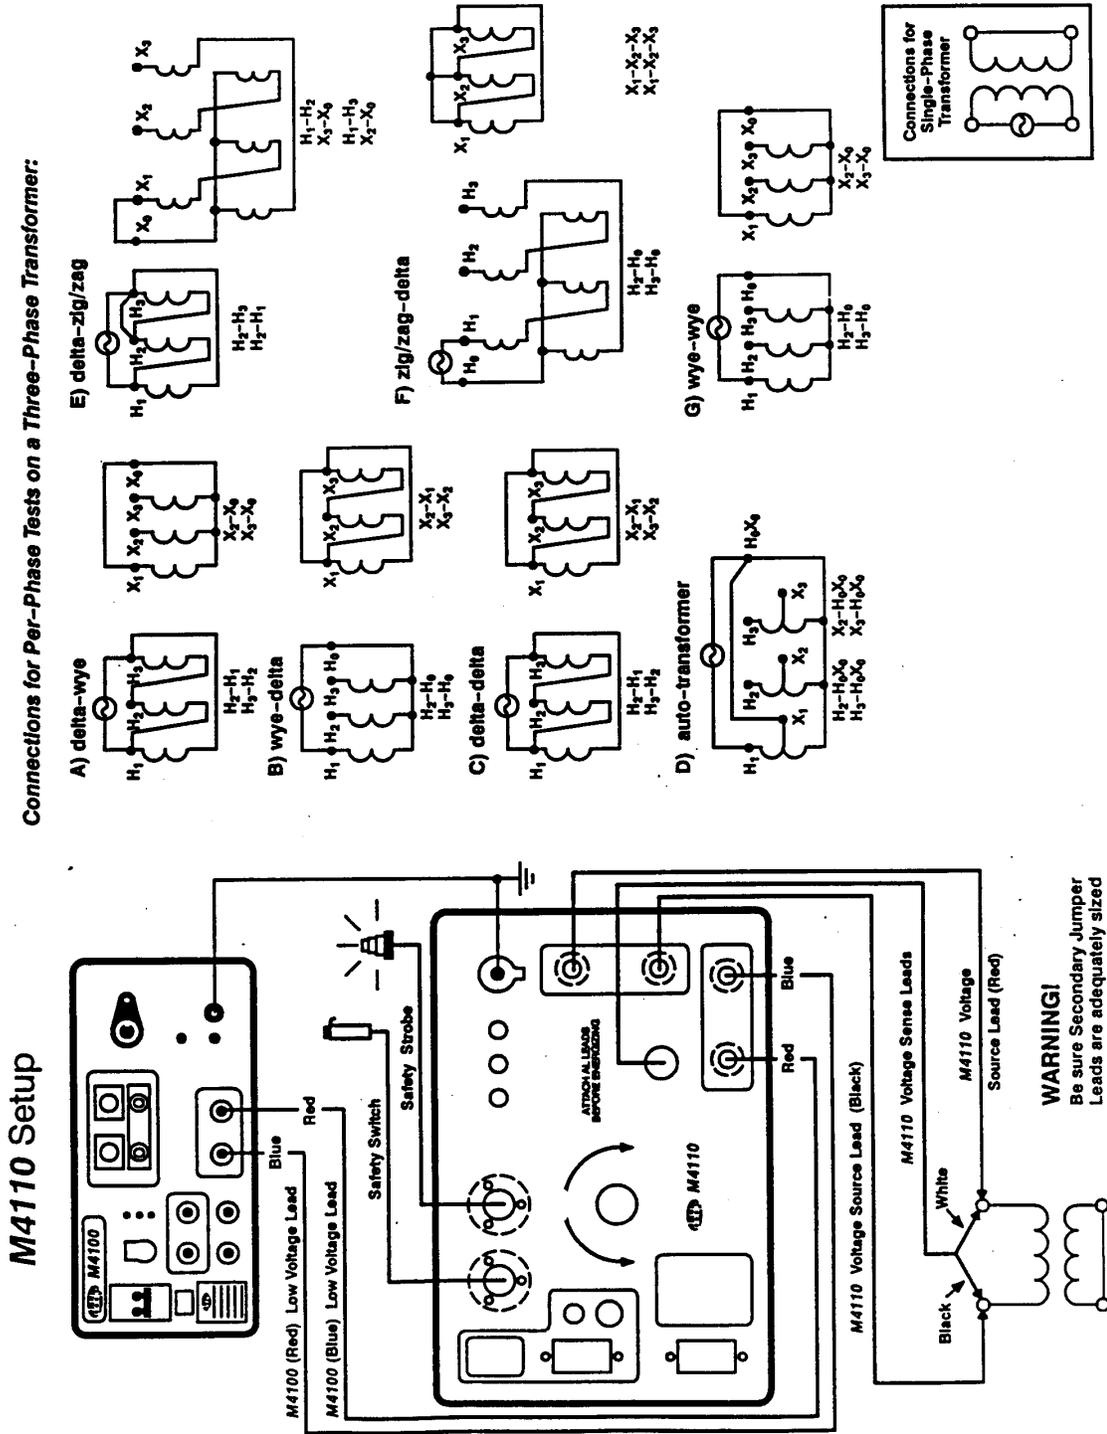
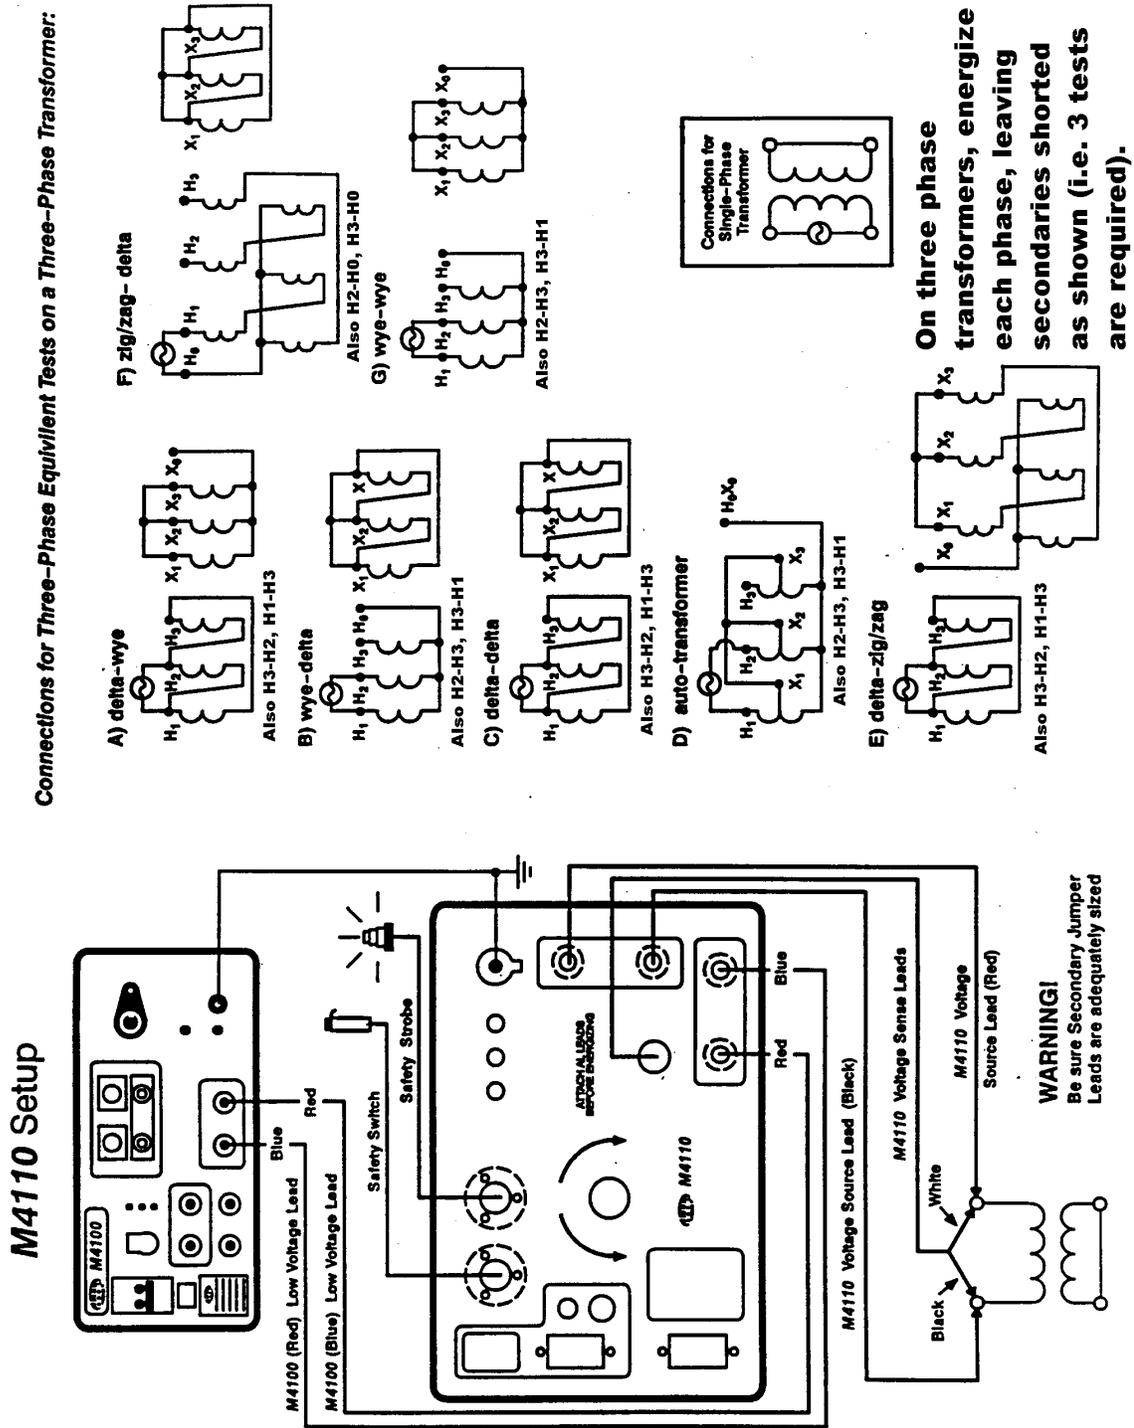
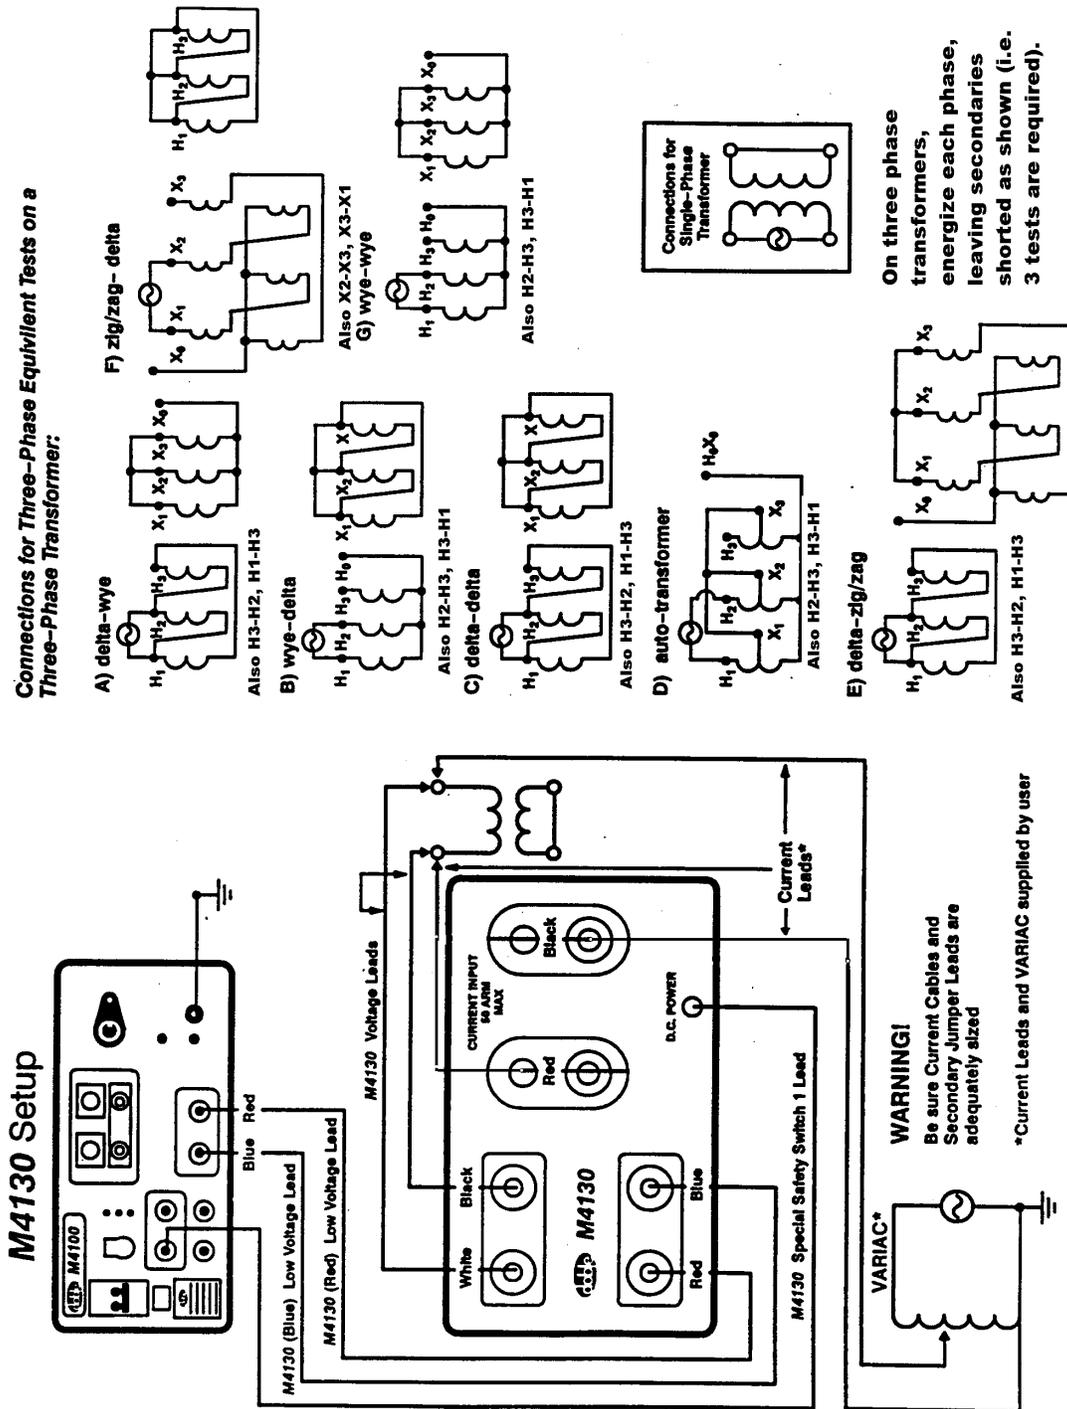

Figure 3.3 M4110 Setup (a)
Figure 3.4 M4110 Setup (b)
Figure 3.6 M4130 Setup (b)
On a new or rebuilt three-phase transformer or during the initial test on a used transformer, a three-phase equivalent test and per-phase tests should be performed. This allows comparison with the nameplate value (the three phase equivalent test), between the phases (per-phase tests) and provides a benchmark for future tests (per-phase tests). On a single-phase unit, only one test can be performed (Figure 3.3 M4110 Setup (a)). For comparison, tests should be performed on the same LTC positions as the nameplate values.
Test connections for use with the M4110 are shown in Figure 3.3 M4110 Setup (a) and Figure 3.4 M4110 Setup (b). Test connections for use with the M4130 are shown in Figure 3.5 M4130 Setup (a) and Figure 3.6 M4130 Setup (b).
One test is performed on each phase, by connecting the voltage source and sense leads from the Leakage Reactance Interface to each pair of line terminals. All three line terminals on the opposite winding are connected together with jumpers, as shown on Figure 3.4 M4110 Setup (b) (if using the M4110), and Figure 3.6 M4130 Setup (b) (if using the M4130).
One test is performed on each phase, by connecting the voltage (source and sense) leads from the Leakage Reactance Interface to a line and the neutral terminals on wye and zig/zag windings or to a pair of line terminals on a delta winding. The terminals on the opposite winding should be short-circuited, as shown in Figure 3.3 M4110 Setup (a) (if using the M4110), and Figure 3.5 M4130 Setup (a) (if using the M4130).
The test connections for a single-phase unit are shown in Figure 3.3 M4110 Setup (a) or Figure 3.4 M4110 Setup (b) (if using the M4110), and Figure 3.5 M4130 Setup (a) or Figure 3.6 M4130 Setup (b) (if using the M4130).
Use Figure 3.3 M4110 Setup (a), Figure 3.4 M4110 Setup (b), Figure 3.5 M4130 Setup (a), and Figure 3.6 M4130 Setup (b) to select the connection that applies to your transformer winding configuration.
5. Jumper together the two terminals of the opposite winding (see Figure 3.3 M4110 Setup (a) or Figure 3.4 M4110 Setup (b)).
4. Connect the black and white leads from one end of the voltage cable across the same winding as the current leads, and the leads from the other end to the M4130 Leakage Reactance Module Voltage Input Terminals, observing the color coding of the leads. **THE CURRENT AND VOLTAGE CABLES CONNECTED TO THE BLACK TERMINALS ON THE M4130 MUST BE CONNECTED TO THE SAME TRANSFORMER BUSHING, AND THE CURRENT CABLE CONNECTED TO THE RED M4130 TERMINAL MUST BE CONNECTED TO THE SAME BUSHING AS THE VOLTAGE CABLE CONNECTED TO THE WHITE M4130 TERMINAL (See Figure 3.5 M4130 Setup (a) or Figure 3.6 M4130 Setup (b)).**
5. Jumper together the two terminals of the opposite winding (see Figure 3.5 M4130 Setup (a) or Figure 3.6 M4130 Setup (b)).
5. **If performing a Per-Phase test**, jumper only the phase of the opposite winding corresponding to the phase under test, as determined by the winding vector diagram on the transformer nameplate, except in the case of a zig-zag winding (see Figure 3.3 M4110 Setup (a)). **If performing a Three-Phase Equivalent Test**, jumper all three line terminals of the opposite winding.